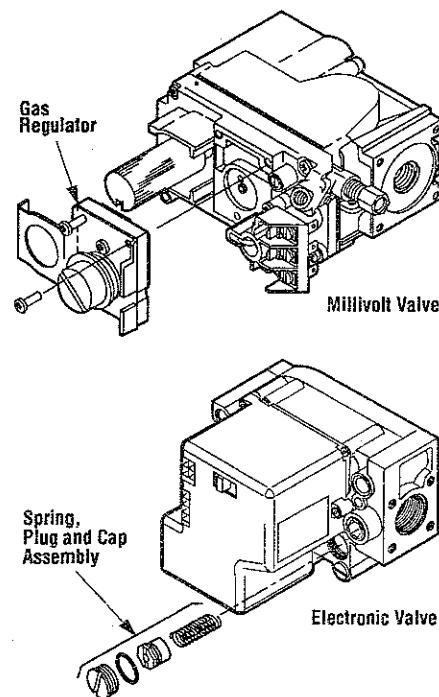

Figure 34
Step 4. Millivolt Appliances - Refer to the instructions provided with the kit and replace the interchangeable gas regulator assembly on the front of the valve, (refer to Figure 34).
Step 5. Electronic Models - Refer to the instructions provided with the kit and replace the existing spring, plug and cap assembly (refer to Figure 34) to convert the valve. Black cap and red spring for Propane gas units and Silver cap and stainless steel spring for Natural gas units.